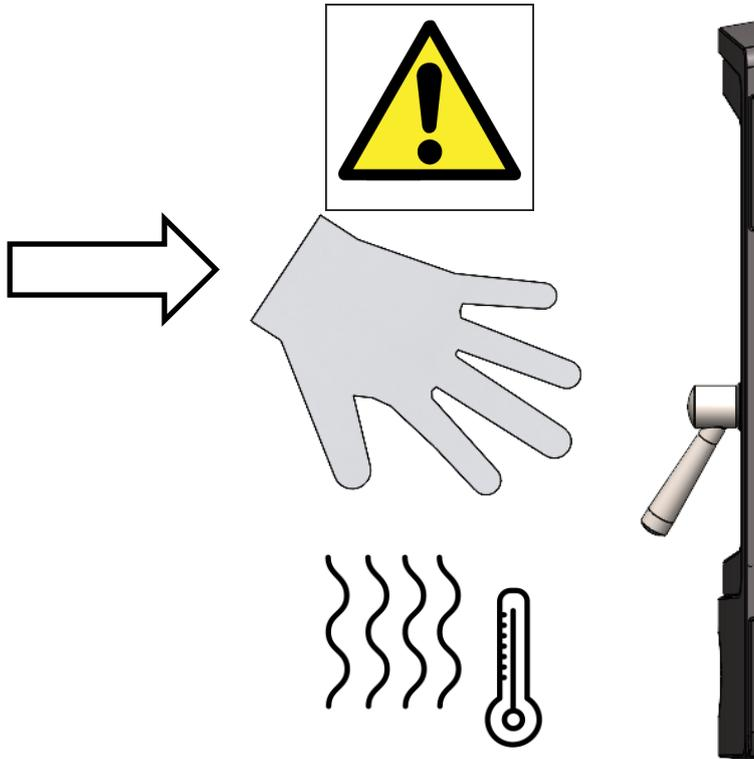

Fig. 18.
- Care must be taken when opening and closing the fire door as any surrounding surfaces will be VERY HOT. See Fig. 18.